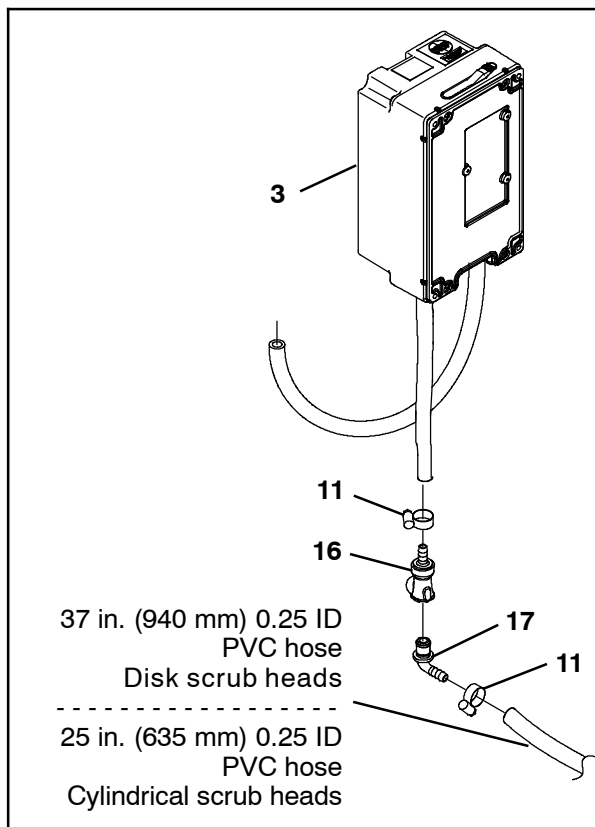

FIG. 14
28. Use one hose clamp (11) to connect the elbow fitting (17) to the 37 in. (940 mm) 0.25 ID PVC hose - (25 in. (635 mm) 0.25 ID PVC hose for cylindrical scrub heads) - and connect the PVC hose to the ec- H2O assembly (3) OUT port hose. (Fig. 14)
29. Route the ec- H2O assembly OUT hose down through the hole in the frame of the machine and to the scrub head. (Fig. 14)